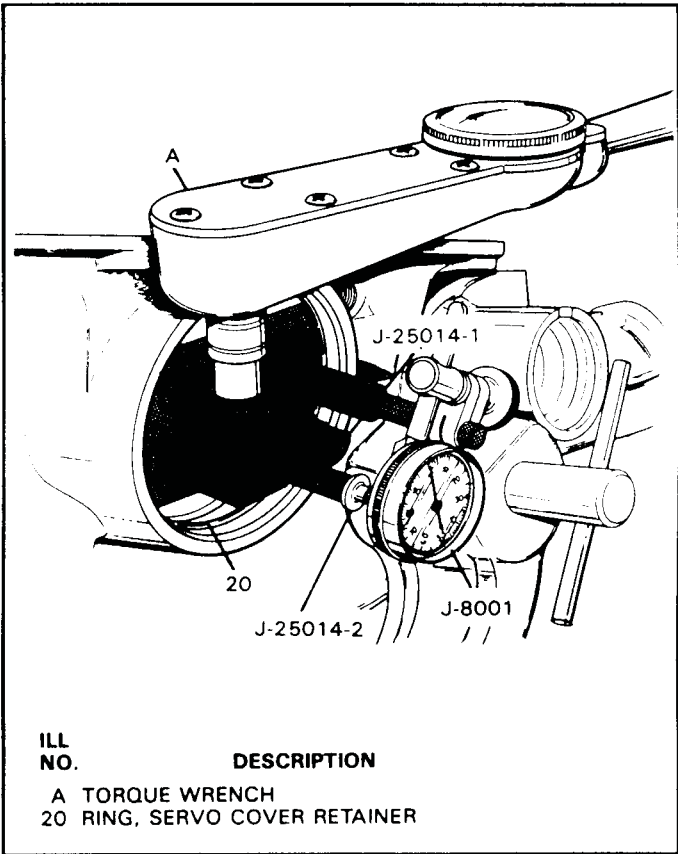

Figure 108
- 1. Install measuring tool J-25014-2 in intermediate servo bore, and retain with servo cover snap ring, as shown in Figure 108.
- 3. Install dial indicator on J-25014-2 zero post, as shown in Figure 108, and zero dial indicator.
- 4. Align stepped side of pin J-25014-1 with torquing arm of J-25014-2 (See Figure 108).